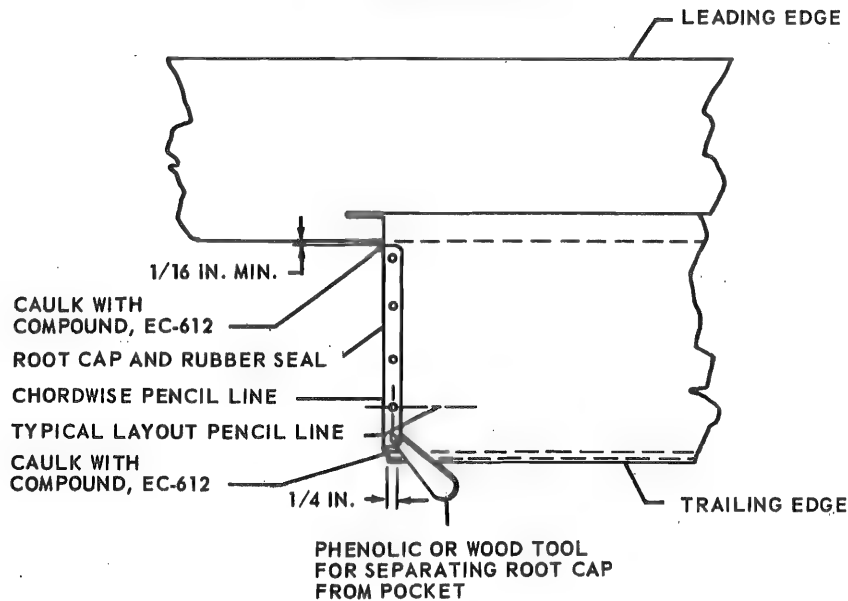

Figure 2-7. Root Cap Removal and Layout Diagram
2-16. REPLACING ROOT CAP. (See figure 2-7.)
c. In order to transfer rivet holes in root pocket to new and undrilled root cap, it will be necessary to make hole locations layout on pocket and root cap as outlined in steps d through g. (See figure 2-7.)